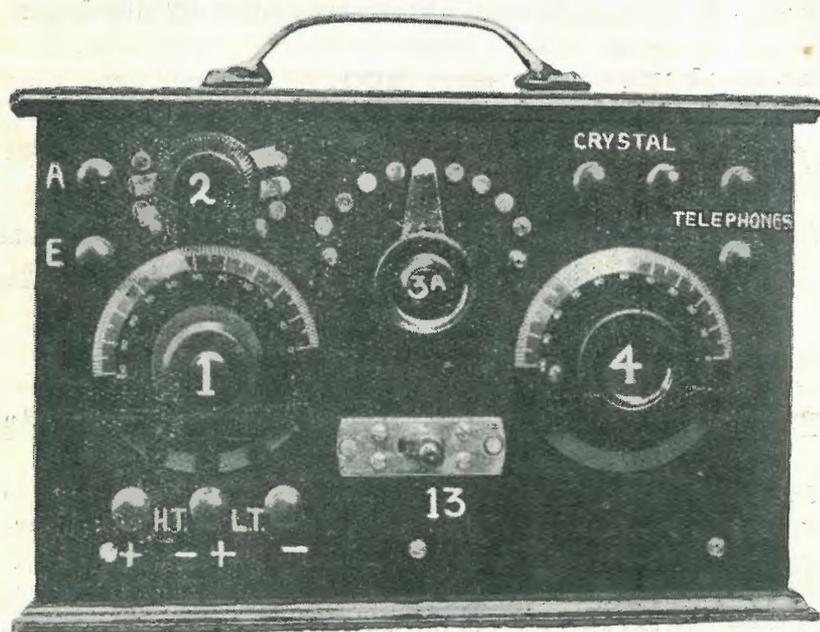

FIG. 1.
Referring to the photograph in Fig. 1, the main controls of this receiver are as follow:—The left hand dial (1), controls the variable condenser and vernier used to tune the circuit in conjunction with the stator winding of the vario-coupler. The reaction coupling is indicated by the right hand dial (4), and the amount of aerial tuning inductance in circuit, by the multi-point switch (3a) between the two. Beneath the inductance switch is a "Federal" anti-capacity switch key (13) with twelve contacts. This key performs several functions. When thrown to the left it closes the filament circuit of the detector valve, switches on the high tension battery, and connects the telephone receivers into the plate circuit of the first valve. In the centre position, all circuits are off, and when on the right, both detector and audio valve filament circuits are closed in addition to the plate battery, and the telephones are connected into the plate circuit of the audio valve. A series parallel switch (2) for the tuning condenser and terminals for Aerial (A), Earth (E), Batteries (HT and LT), and a Crystal Detector complete the apparatus on the front panel. The crystal detector circuit is not used in conjunction with the valves, but is an emergency form of reception to be called into use during such times as the filament battery is away being re-charged, or the valves in-operative for any other reason.